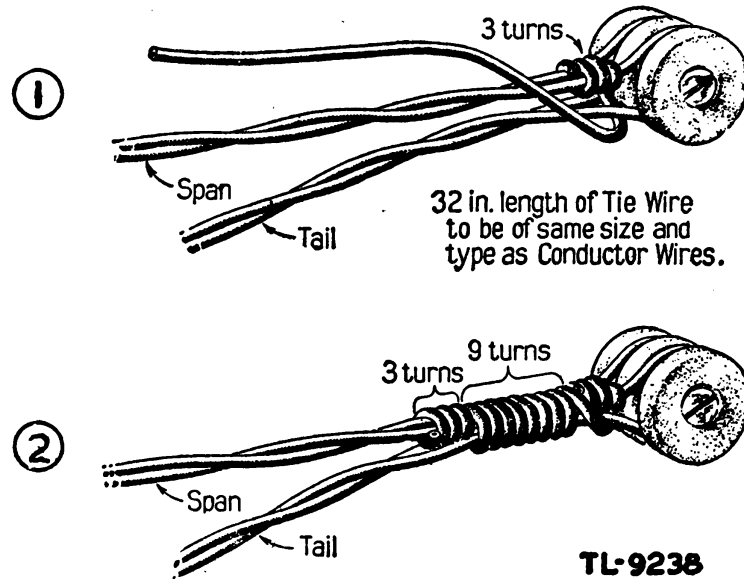

Figure 43. Dead-end tie, without loop (twisted-pair drop wire).
e. **DEAD-END TIE (WITHOUT LOOP).** The dead-end tie, without loop, is made as shown in figure 43.